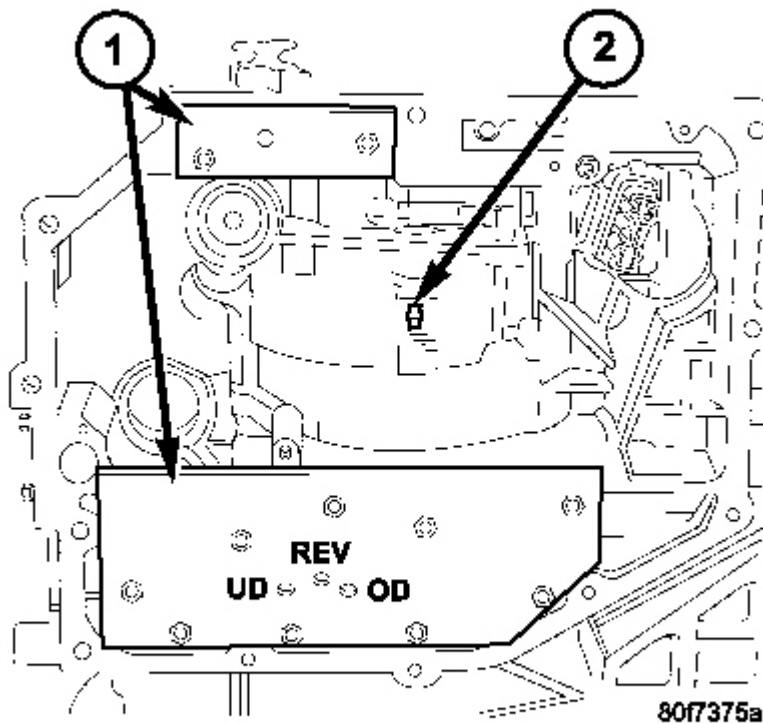

Fig. 9: Air Pressure Test Plates & 2/4 Clutch Retainer Hole
Inoperative clutches can be located by substituting air pressure for fluid pressure. The clutches may be tested by applying air pressure to their respective passages after the valve body has been removed. Use Plate Set 6599-1 (1) and 6599-2 (1) to perform test. See **Fig. 9**.